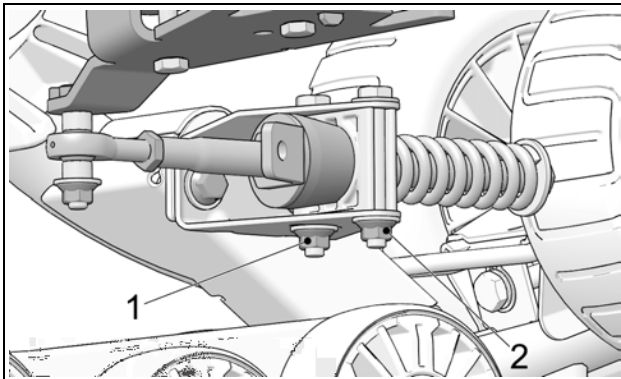

Figure 9
- Re-tighten anti-rotation bracket bolts (1) and (2) to 50 N•m [37 lb•ft] of torque. See Figure 9.